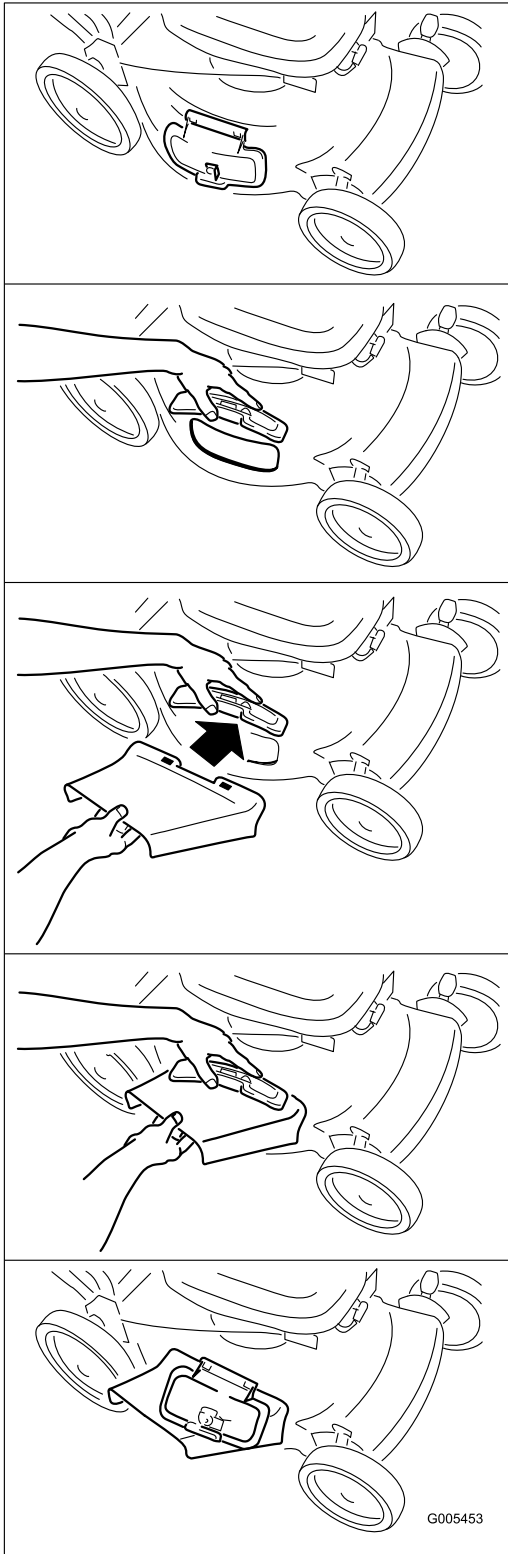

Figure 21
2. Install the side discharge chute (Figure 21).